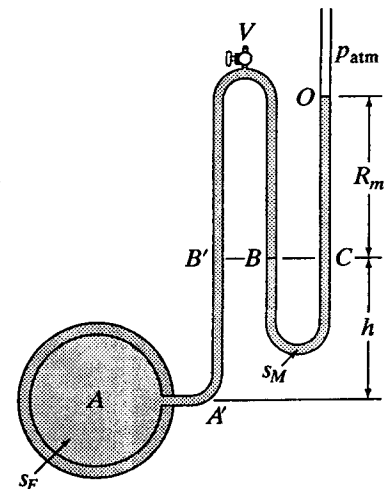

Figure 3.11
3.5.7 (a) A mercury manometer (Fig. 3.11) is connected to a pipeline carrying water at 150°F and located in a room where the temperature is also 150°F. If the elevation of point B is 6 ft above A and the mercury manometer reading is 48 in, what is the pressure in the pipe in psi? Be as precise as possible, and note the effect of temperature. Note that at 150°F the specific gravity of mercury is 13.45. (b) Repeat, assuming all temperatures are 68°F.